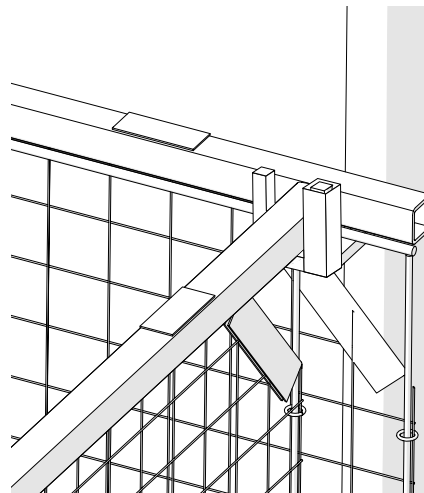

Fig. 3
3. Place the corner fence in the Corner Fence Bracket handrail holder flush against the opposite corner fence. Fig 3.